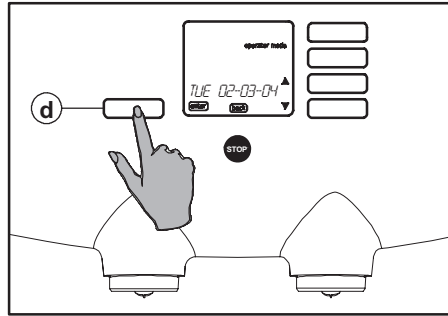

Fig. 54 Day, date and time display
4. Press the enter button (fig. 54 d). The display shows the day, date and time set.